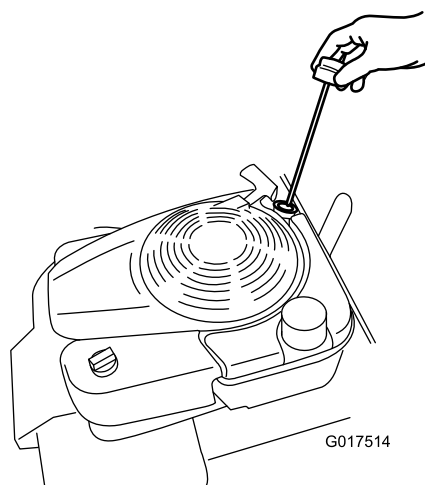

Figure 14
2. Retirez la jauge (Figure 14).